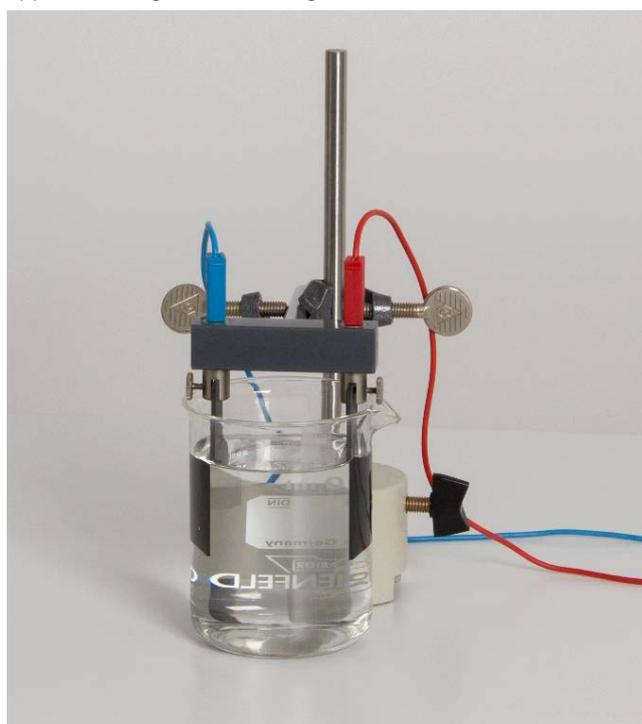

Fig. 1
- The apparatus is set up as can be seen in Fig. 1.